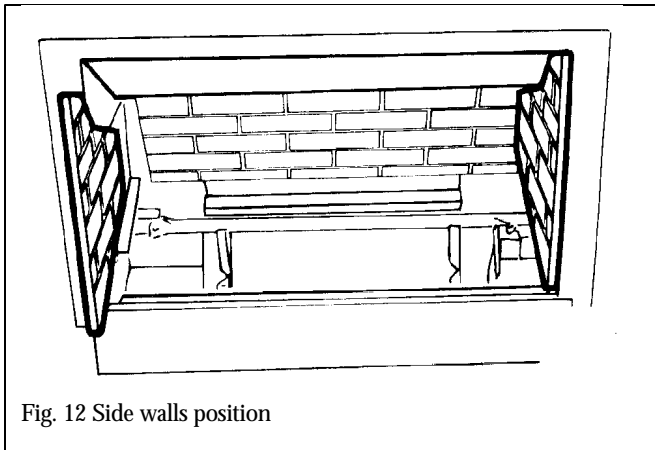

Fig. 12 Side walls position
- 12.2** Place the ceramic side walls in position at the sides of the firebox. The sides are left and right handed. The sides should locate in the sloping channels near the bottom of the firebox sides and in the gap between each side of the firebox and the black top baffle (see figure 12).